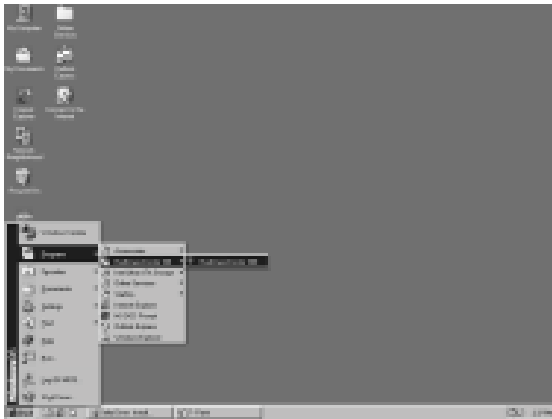

Figure 5
- The **“DELTA HardWare Doctor 3.60”** option will be added to the **“Program”** directory. Click on the **“HardWare Doctor 360”** icon to access the program, the screen will appear Figure 5.